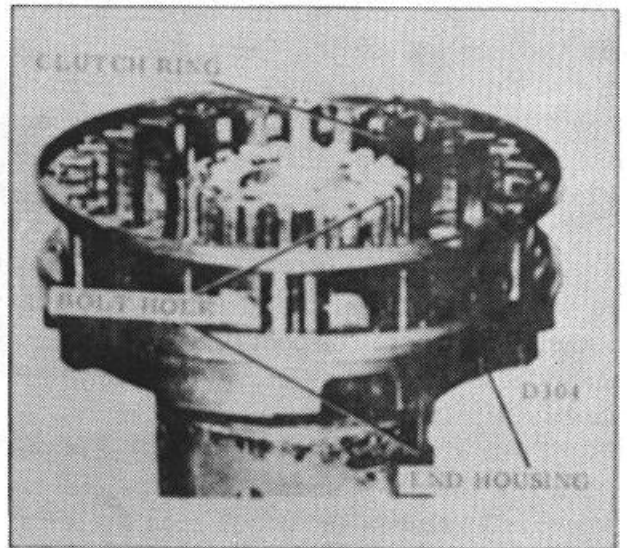

Figure 23.
**NOTE:** The separator plates are dished and must be installed with the dish facing the same way on all plates. It is not important whether the dish is up or down. (Fig. 23)